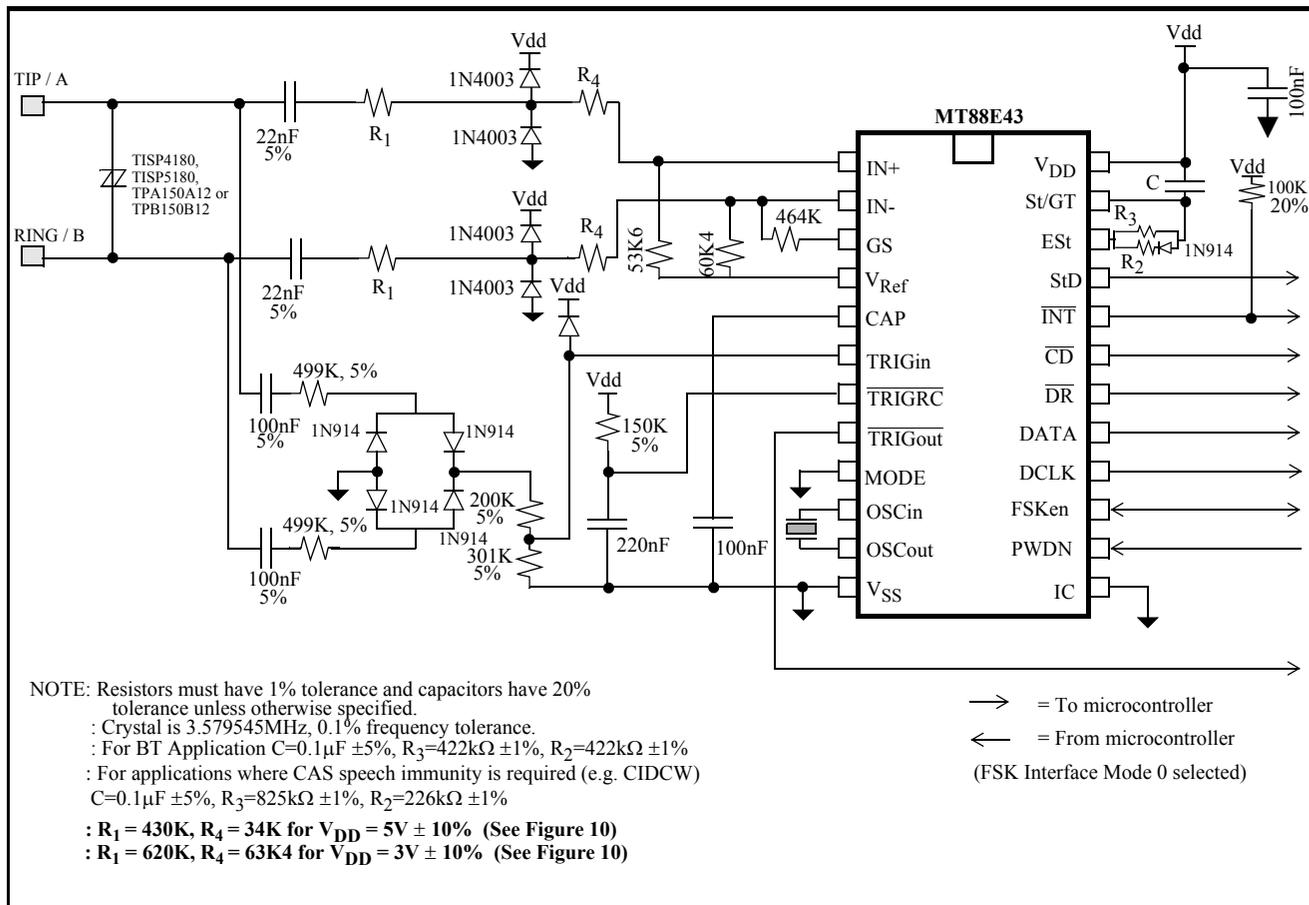
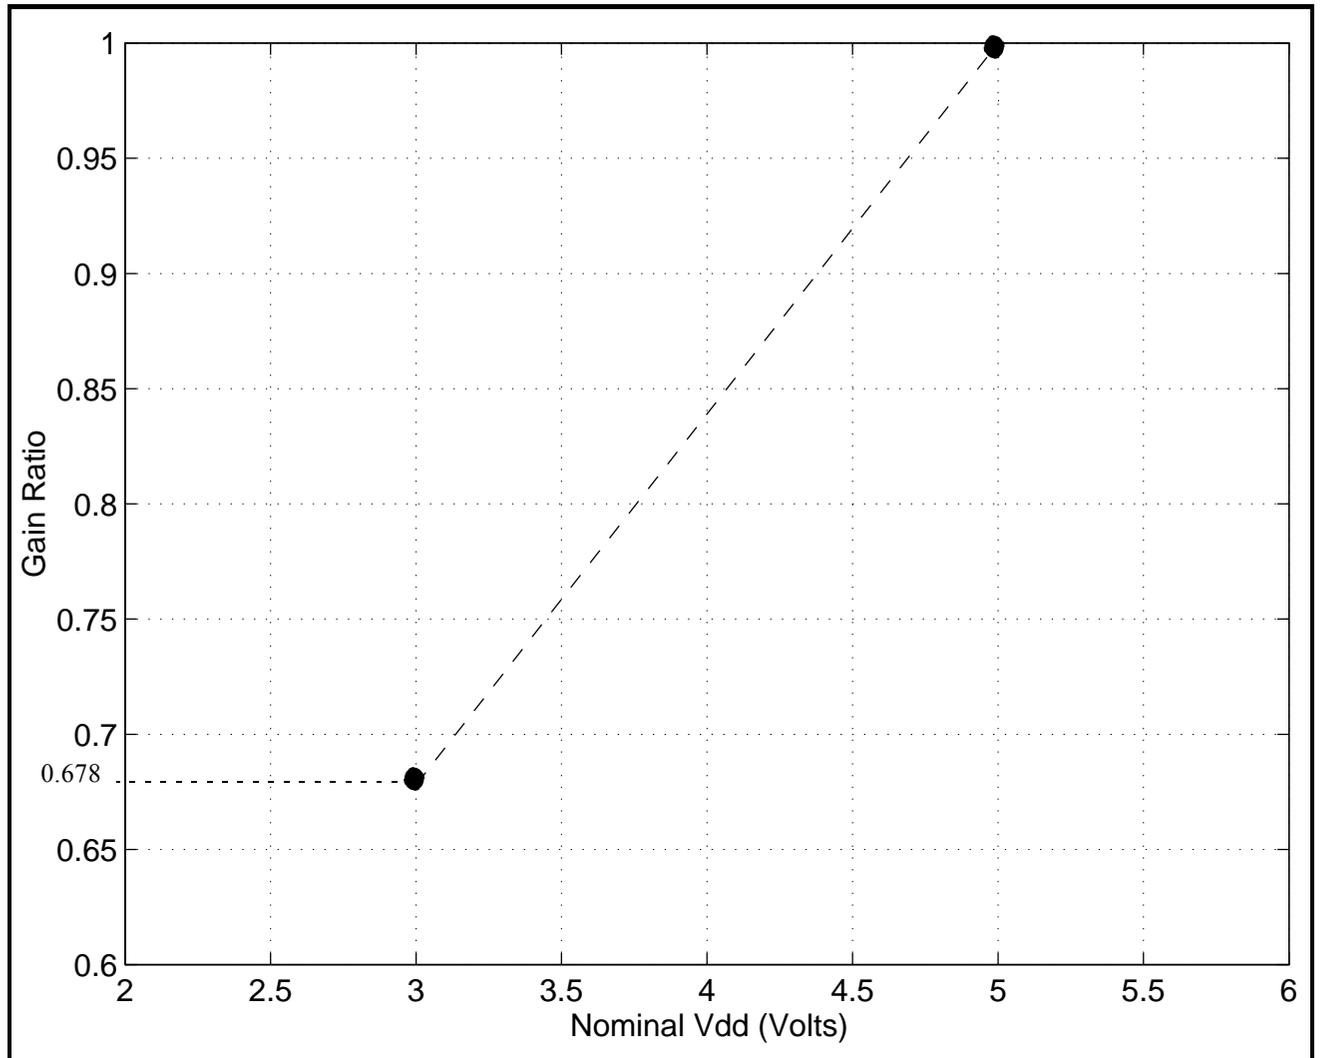

Figure 9 - Application Circuit
Figure 10: Gain Ratio as a function of Nominal Vdd
BT also specifies that the TE is required to apply a D.C. wetting pulse and an AC load 15-25ms after the end of the alerting signal. If  $t_{ABS}=t_{DA}+t_{GA}$  is 15 to 25ms, the D.C. current wetting pulse and the A.C. load can both be applied at the falling edge of StD. The maximum  $t_{DA}$  is 8ms so  $t_{GA}$  should be 15-17ms. Therefore,  $t_{GP}$  must be greater than  $t_{GA}$ . Figure 5(a) shows a possible implementation. The values in Figures 9 and 11 ( $R2=R3=422K$ ,  $C=0.1\mu F$ ) will meet the BT timing requirements.
$(A_{Vdiff}) = R5/R1$  (see Figure 9,10,11)
The circuits shown in Figures 9 and 11 are application circuits for the MT88E43. As supply voltage (VDD) is decreased, the threshold of the device’s tone and FSK detectors will be reduced. Therefore, to meet the BT or Bellcore tone reject level requirements the gain of the internal opamp should be reduced according to the graph in Figure 10. For example when VDD=5V (+/- 10%), R1 should equal 430kΩ and R4 should equal 34kΩ; and if VDD=3V (+/- 10%) R1 should equal 620kΩ and R4 should equal 63.4kΩ. Resistors R1 and R4 are shown in Figures 9 and 11.
The circuit shown in Figure 9 illustrates the use of the MT88E43 in a proprietary system that doesn’t need to meet FCC, DOC, and UL approvals. It should be noted that if glitches on the tip/ring interface are of sufficient amplitude, the circuit will falsely detect these signals as ringing or line reversal.
Note: In the application circuits shown in Figures 9 and 11, the Gain Ratio of MT88E43 opamp is
- With gain setting as shown in Figure 10. Production tested at 3V  $\pm$ 10%, 5V  $\pm$ 10%.